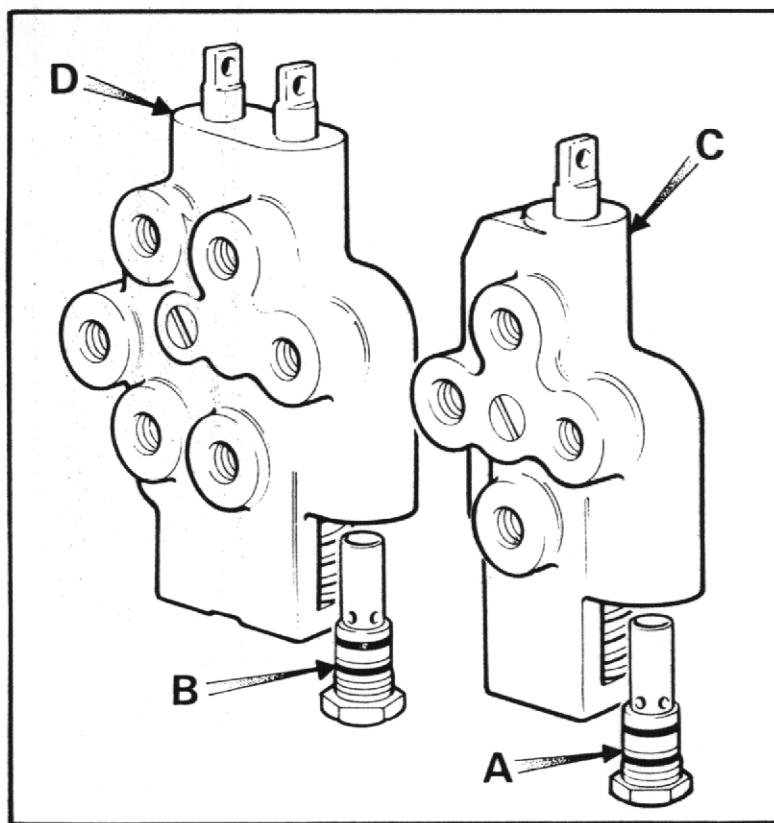

FIG.5
- b) Operate control lever to lift to full height, check that the reading on the pressure gauge is 2000 lb/in2 when lift ram is fully extended and the relief valve (A) Fig. 5 is 'blowing'.
- b) Operate control lever to tilt mast back and check that pressure reading on gauge is 2000 lb/in2 when ram is fully retracted and relief valve (B) Fig. 5 is 'blowing'.
5. Remove relief valve cartridge (A) Fig. 5 for lift system or (B) for tilt system (hexagon head) from bottom of control valve (C) or (D) (see fig. 5) and replace with a new one.